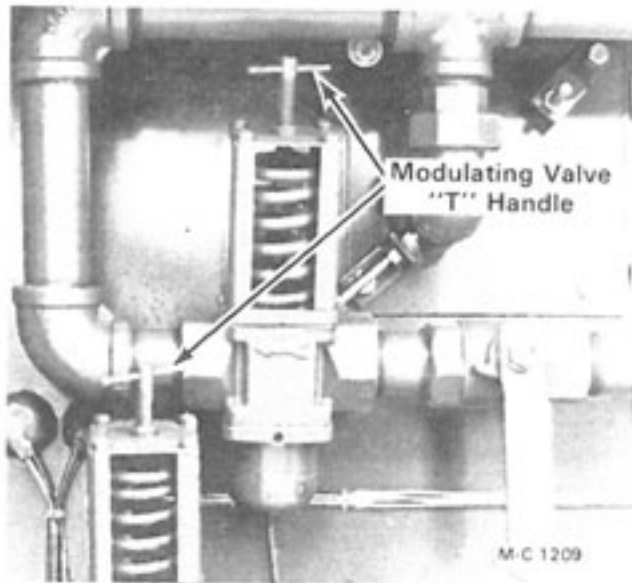

Figure 15 - Two Burner Controls
2. Turn the "T" handle on the modulating valve IN to INCREASE temperature and OUT to DECREASE temperature, see Figure 15. There is a temperature gauge for each burner placed at the left front corner (viewed front to back) of each fan housing.